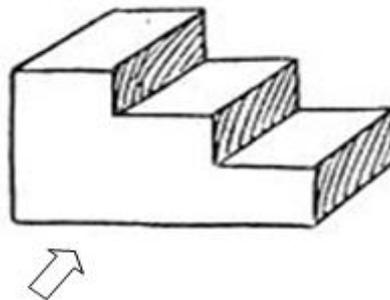

Figure 1
15. **Figure 1** shows a wooden block. Sketch the following views: (4 marks)